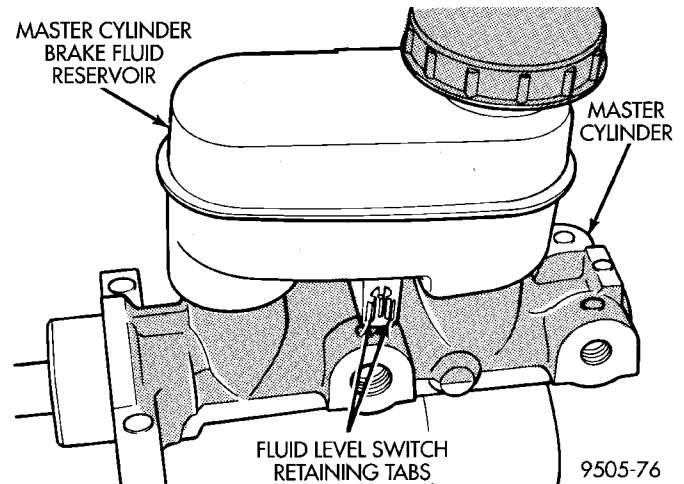

Fig. 166 Brake Fluid Level Switch Retaining Tabs
(2) Compress retaining tabs (Fig. 166) on end of brake fluid level switch.
(4) Correctly align the replacement level switch with its mounting hole in the brake fluid reservoir. Push switch into fluid reservoir until retaining tabs are fully expanded on opposite side of fluid reservoir (Fig. 166).